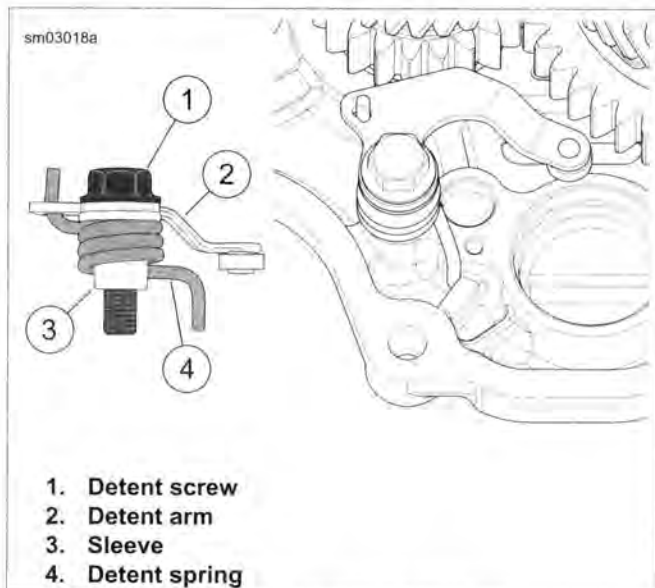

Figure 6-29. Detent Assembly
- a. See Figure 6-29. Clean detent screw mounting hole in transmission bearing housing.